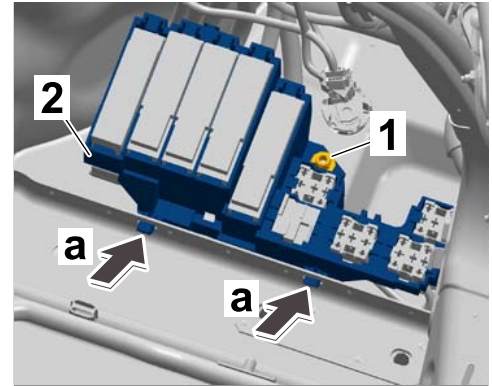

Figure 11
2.5.1 Install fuse box (luggage compartment) into the openings on the longitudinal member (⇒ *Figure 11-a*).